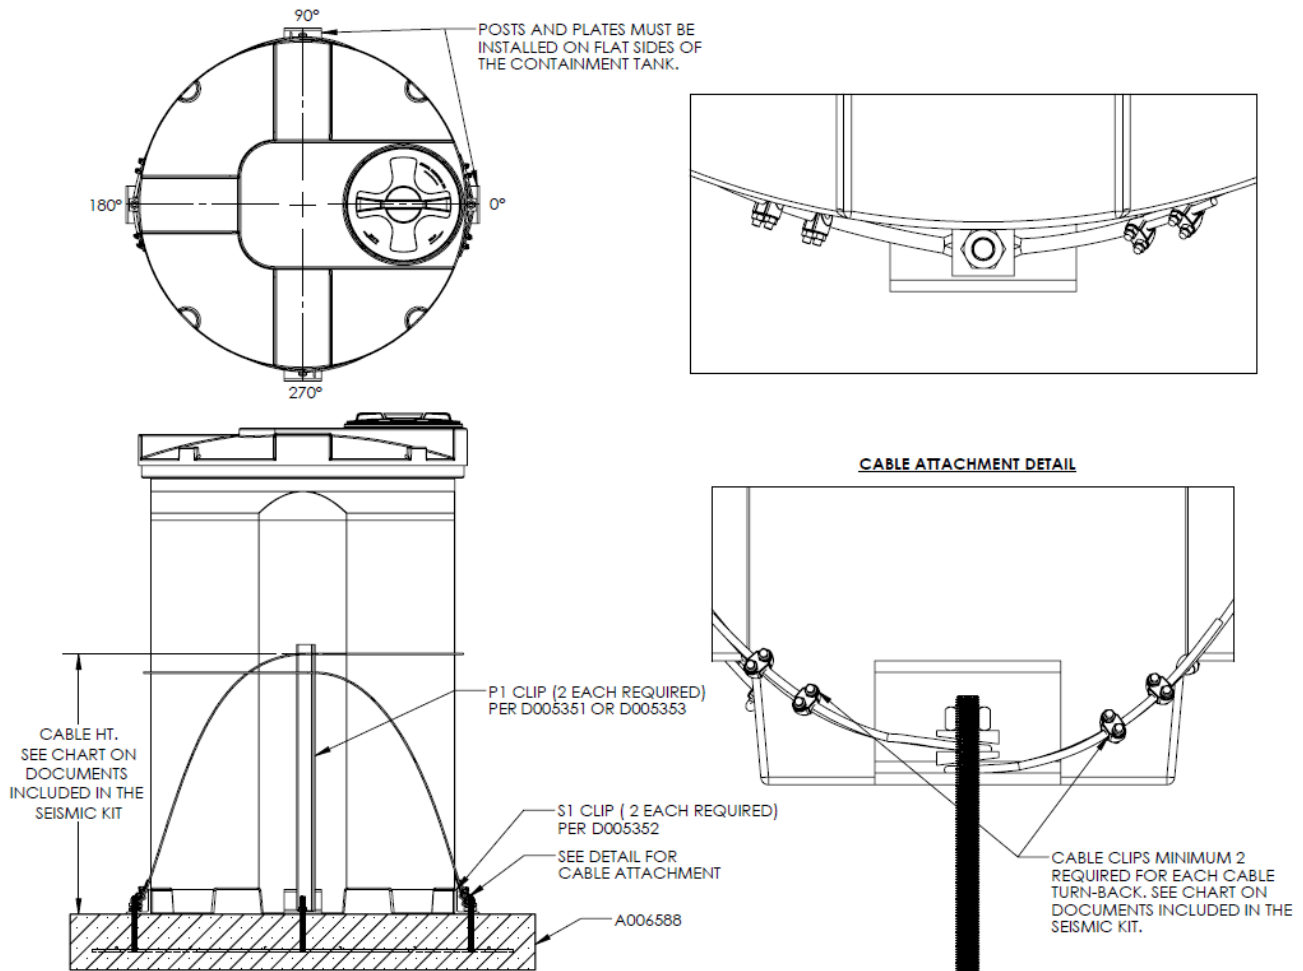

Figure 8.4
8.4.1 The wind/seismic tank restraint system is designed for dual containment tank restraint on an appropriate concrete pad under 150 MPH wind. Using the assembly drawing and table shown in Figure 8.4, verify that all parts are present.